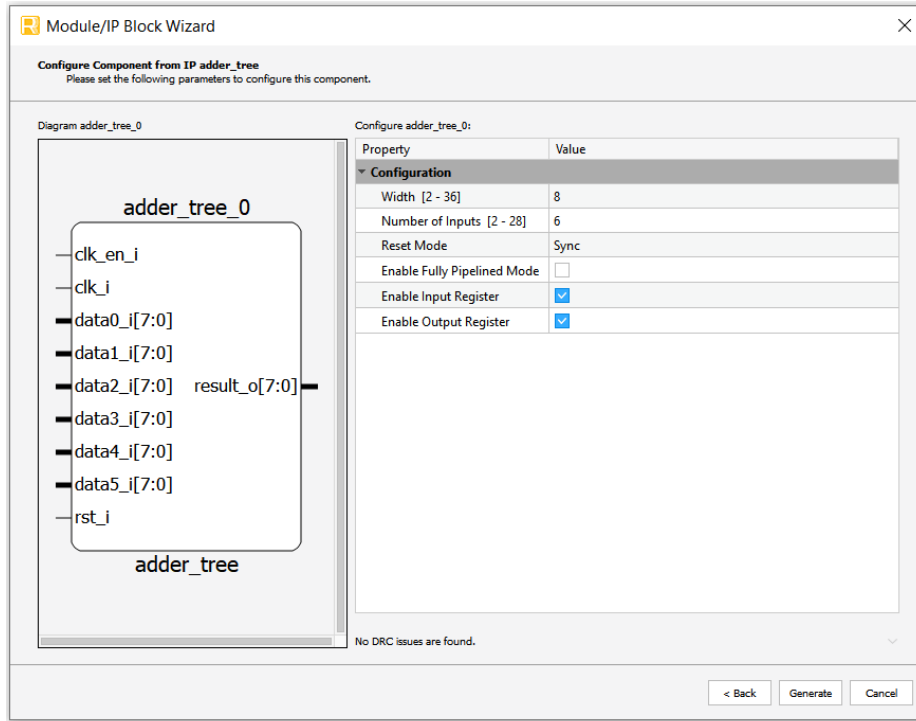

Figure 3.2. Configure User Interface of Adder Tree Module
4. In the module’s dialog box, customize the selected Adder Tree Module. A sample configuration is shown in Figure 3.2. For configuration options, see the Attribute Summary section.